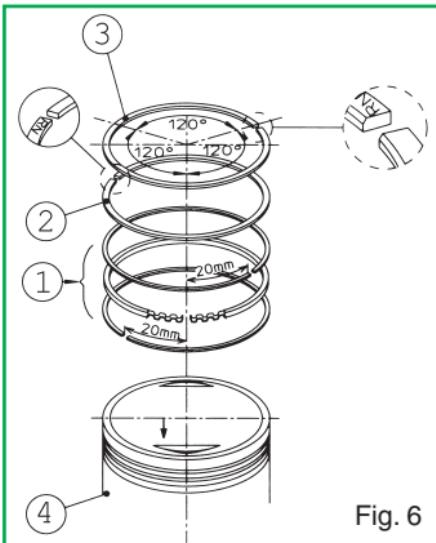

Fig. 6
then the upper scraper ring (Fig. 6 - Part. 1).
- Fit the second piston ring with the N printing turned towards the piston upper part as indicated in Fig. 6 - Part. 2.
- Fit the first compression piston ring with the N printing turned towards the piston upper part as indicated in Fig. 6 - Part 3.
- Position the piston rings openings as shown in Fig. 6.
- Position the piston on the connecting rod and insert the new gudgeon pin. Make sure that the arrow punched on the piston crown is turned towards the exhaust side (Fig. 6 - Part 4).
- Recheck that the piston rings openings are positioned as shown in Fig. 6.